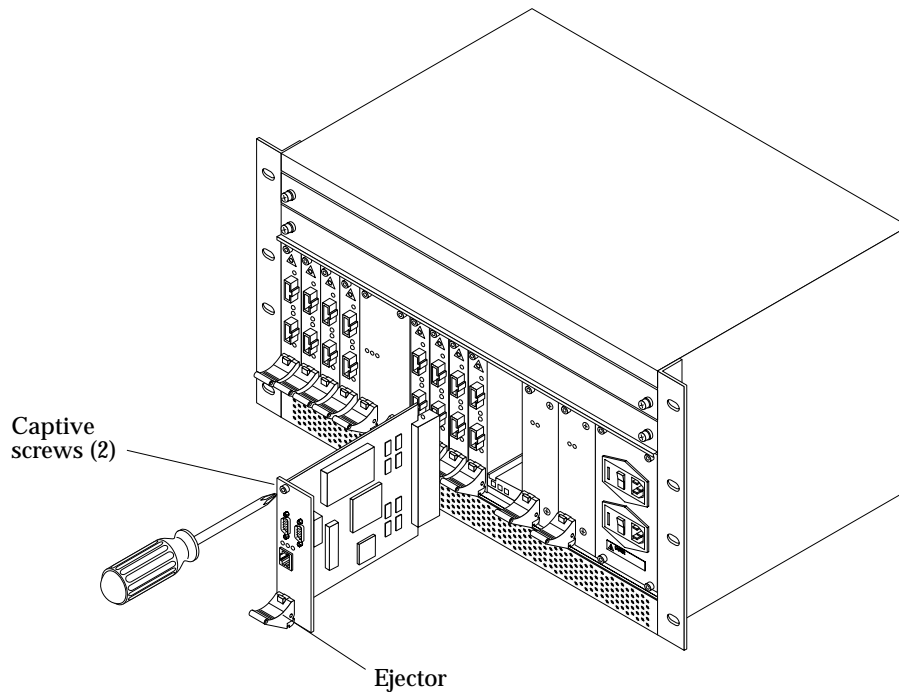

FIGURE 4-2 Replacing a Switch System Controller
5. **Loosen the captive screws at the bottom and top of the module (FIGURE 4-2).**
2. **Unlock the replacement module ejector by depressing the red button on the ejector (FIGURE 4-2).**